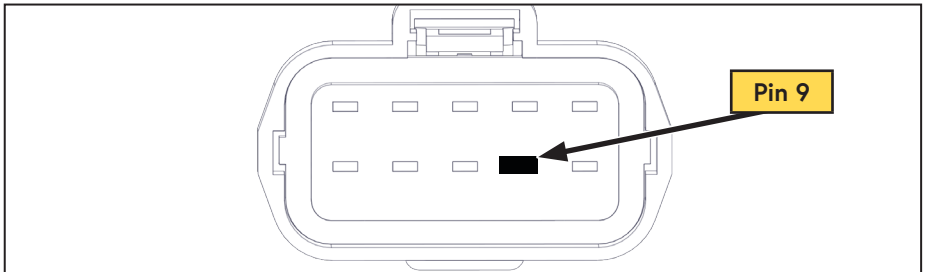

Figure 5 — View from front of connector
- Locate the yellow wire with blue stripe going to pin 9 in the transmission range sensor connector (Figure 5).